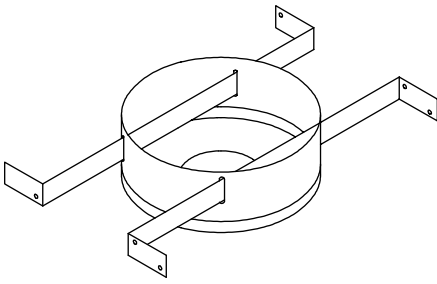

Figure 13
1. Description. The Bucket Support (*Figure 13*) is for properly supporting the B-vent between 16 or 24-inch O.C. joists or rafters, or for providing a transition fitting between DuraConnect or DuraConnect II and the B-vent Pipe Sections. A maximum of 20 feet of Type B Gas Vent may be supported. Note that the Bucket Support must be installed prior to the sheetrock.